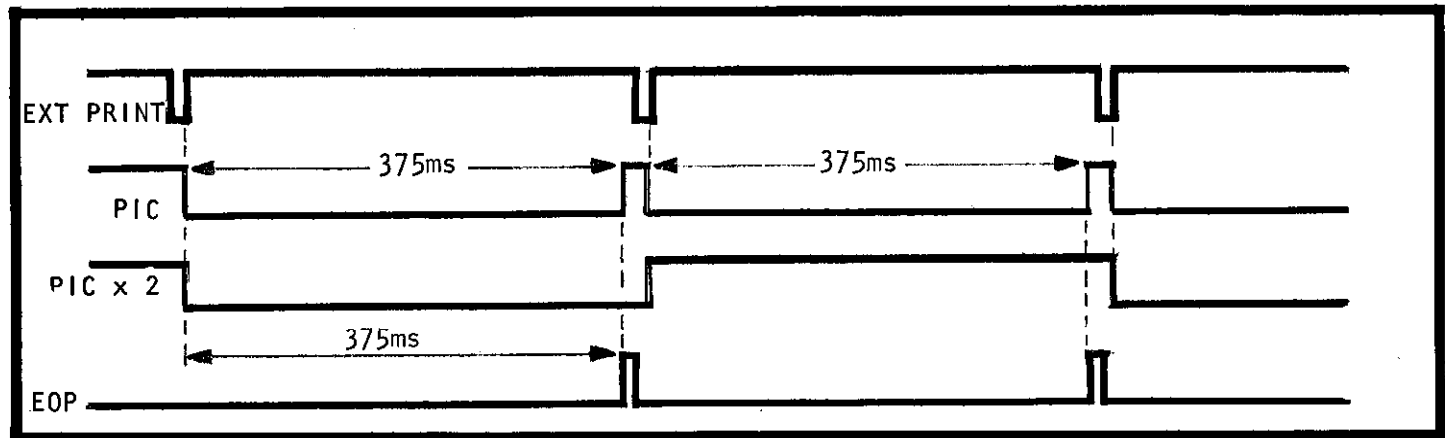

FIGURE 9. Timing For PIC x 2.
5. PIC x 2 (Pin 2). This output depends on the setting of the PIC switch (S102). The timing for this output is shown in Figure 9.